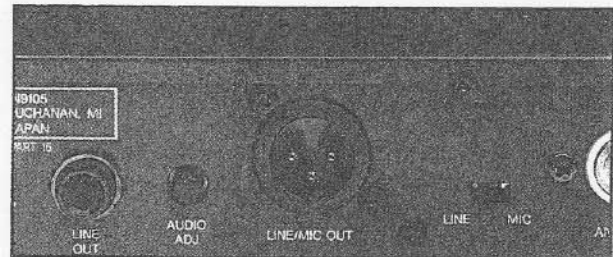

Figure 2 - Connect Audio Cable on Rear Panel
- 4) **Plug one end of your audio cable (not supplied) into the appropriate output connector (XLR or quarter-inch) on the rear panel of the receiver (see Figure 2).** Plug the other end of the audio cable into the mixer/preamp/amplifier input. The receiver XLR output is balanced; for single-ended (unbalanced) applications, use only pins 1 (common) and 2 (signal high). The output level in this mode will be 6 dB less than for the balanced mode. The unbalanced quarter-inch output is line level only, and the XLR output is switchable low or high level. Do not connect either pin 2 or pin 3 to ground (common) at any time.